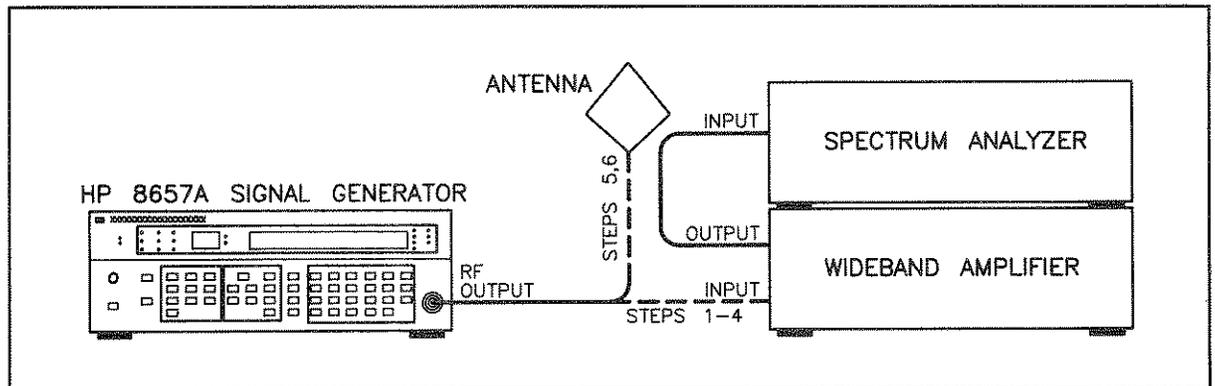

Figure 4-10. Output Leakage Test Setup
1. Connect equipment as shown in Figure 4-10.
5. Connect the one-inch loop antenna to the analyzer through the 26 dB amplifier as shown in Figure 4-10. Hold the end of the loop antenna cylinder in contact with the front surfaces of the Signal Generator. All signals and noise should be below the reference graticule line (i.e., below -107 dBm).